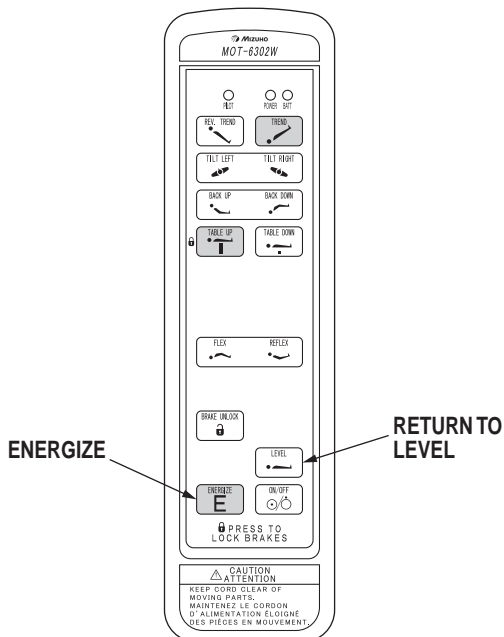

Figure 2-13. Return to Level
**g. Return To Level** To return the table top to a level position, press the ENERGIZE button and then the LEVEL button (figure 2-13).